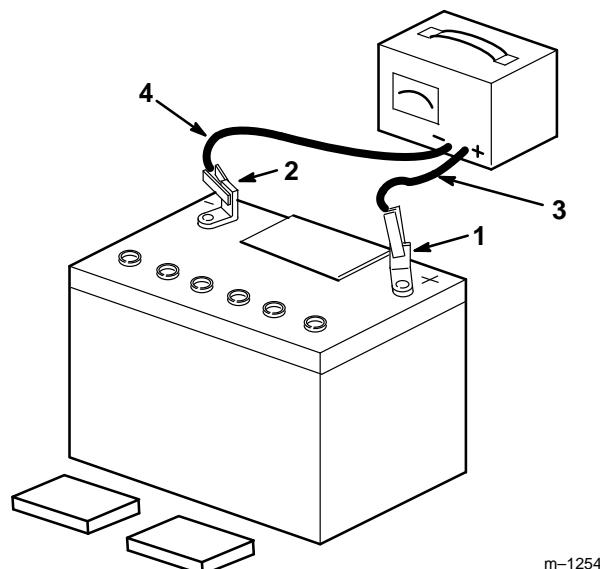

Figure 5
3. Leave the covers off and connect a 3 to 4 amp battery charger to the battery posts (Fig. 5). Charge the battery at a rate of 4 amperes or less for 4 hours (12 volts).
- When the battery is fully charged, disconnect the charger from the electrical outlet then from the negative and positive battery posts (Fig. 5).